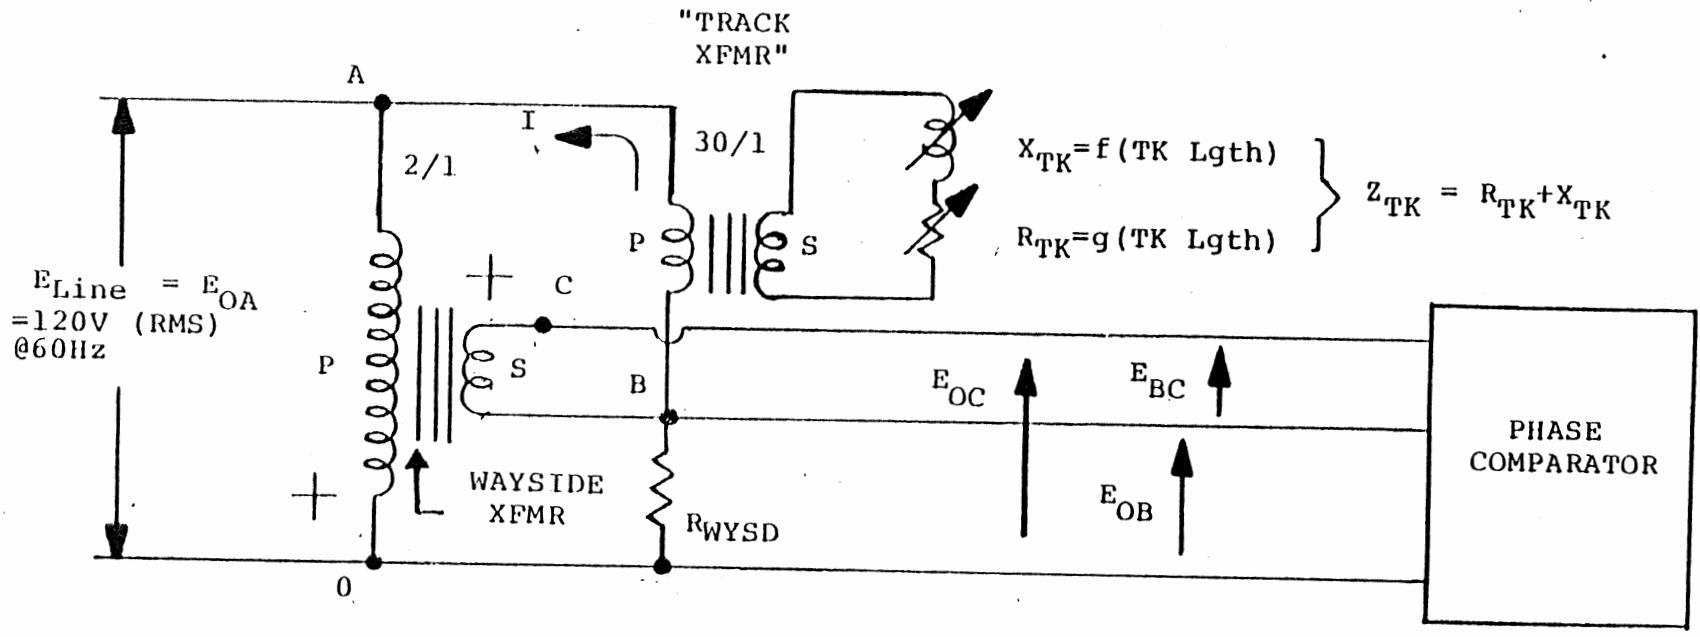

Figure 3-4. Typical Wayside Circuit Diagram for a Single Track
3.3.4 Operation of the Wayside Circuitry (Refer to Figure 3-4)
Vectorially, Figure 3-4 is described by: